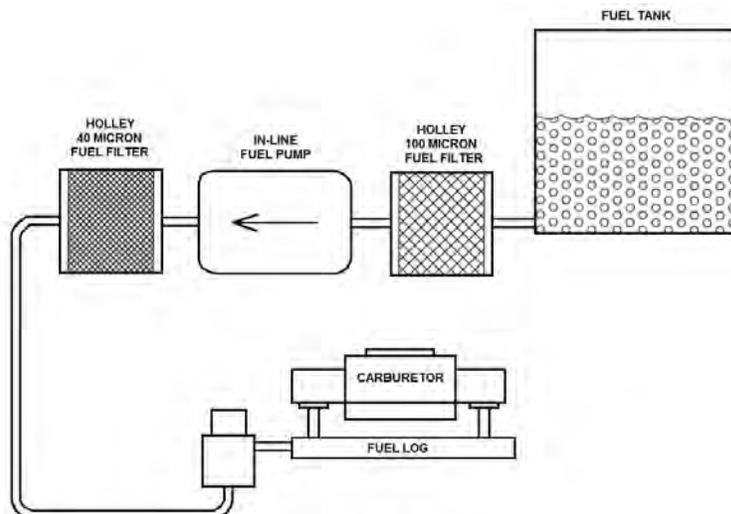

Figure 1
4. Connect the fuel line from the tank to the pre-filter and then **to the inlet port of the pump**. Connect the carburetor delivery line to the outlet port of the pump to the fine micron fuel filter and to the regulator (for the 12-150) located near the carburetor inlet. See **Figures 1, 2a, and 2b**. The fuel pump inlet and outlet ports take a 3/8" NPT fitting, therefore a 3/8" or larger fuel line is recommended.
NOTE: The fuel pressure regulator is included with the 12-150 (see **Figure 1**). Plug any unused ports.